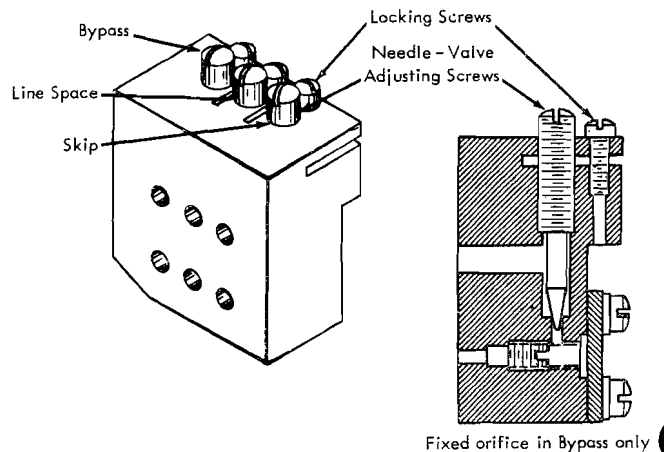

Figure 50. Needle Valves
4. Loosen the lockscrew for the center needle valve (the center right screw, Figure 50).
- b. Back off on the center left screw (Figure 50) until you feel the detent nip the detent wheel. The impact will be transmitted through the screwdriver.
4. Loosen the lock screw for the skip needle valve (the front right screw, Figure 50).
- b. Back off on the front left screw (Figure 50) until you feel the detent nip the detent wheel. The impact will be transmitted through the screwdriver.
(1) If no nipping is detected after turning out a maximum of five turns, stop the carriage motor so that the hydraulic pumps are not moving. Turn down on the front left screw until it is closed. Then back off five full turns on this screw. Tighten the lock screw (the front right screw).
(2) If nipping is detected, adjust the needle valve to stop the detent from nipping.
5. Loosen the lock screw for the bypass needle valve (the rear right screw, Figure 50).